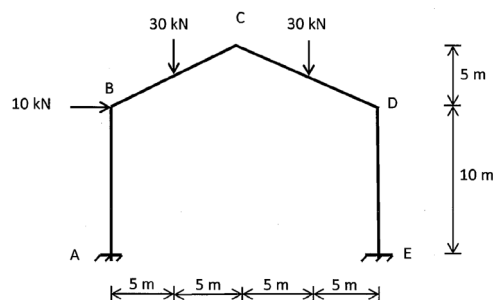

Figure 2
- Q8)** Analyse the gable frame loaded and supported as shown in figure 2 and find plastic moment capacity M_p . Assume uniform cross section for all members of the frame. [18]